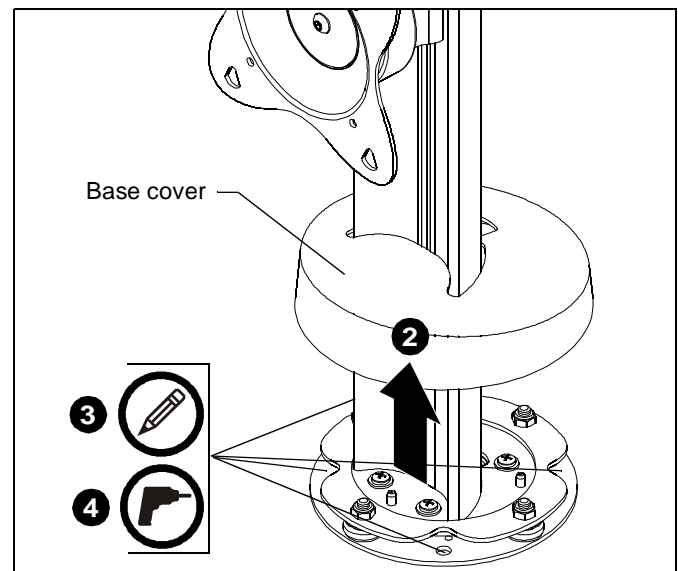

Figure 3
2. Carefully raise STS1 base cover and affix to STS1 column using a piece of tape. (See Figure 3)
3. Mark four mounting hole locations on mounting surface. (See Figure 3)
4. Drill four  $5/16$ " diameter (7.9mm) holes through mounting surface at marks, and an optional  $1-5/8$ " diameter (41.3mm) cable management hole. (See Figure 3)